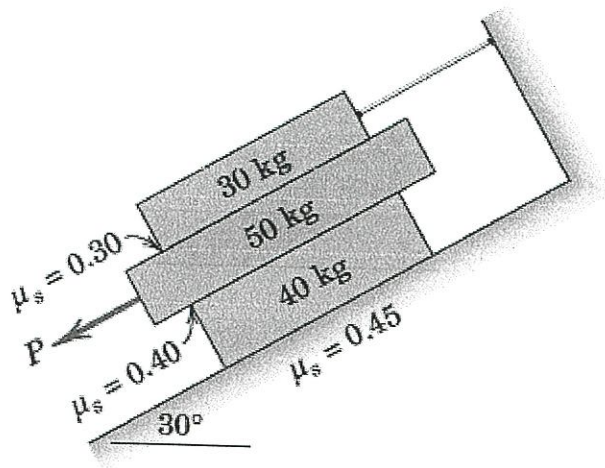

Figure Q3(a)
- Q3** (a) The three flat blocks are positioned on the  $30^\circ$  incline as shown in **Figure Q3(a)**, and a force P parallel to the incline is applied to the middle block. The upper block is prevented from moving by a wire which attaches it to the fixed support. The coefficient of static friction for each of the three pairs of mating surfaces is shown. Determine the maximum value which P may have before any slipping takes place. (13 marks)